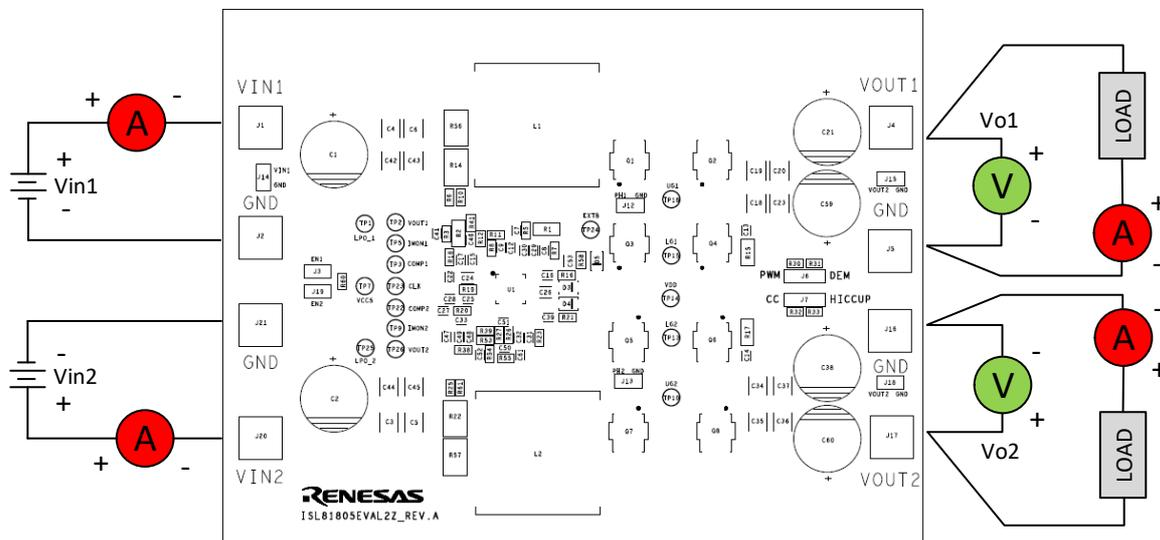

Figure 3. Proper Test Setup
As shown in Figure 3, the 9V to 36V V_{IN1} is supplied to J1 (+) and J2 (-). The regulated 48V output V_{O1} is on J4 (+) and J5 (-). Because of the high-power efficiency, Channel 1 can run at 3A continuously without airflow at ambient room temperature conditions. The 9V to 20V V_{IN2} is supplied to J20 (+) and J21 (-). The regulated 24V output V_{OUT2} is on J17 (+) and J16 (-). Because of the high-power efficiency, Channel 2 can run at 5A continuously without airflow at ambient room temperature conditions.
1. Jumper J6 provides the option to select PWM or DEM. Jumper J7 provides the option to select a constant current limit or HICCUP. See Table 2 for the operating options. Ensure that the circuit is correctly connected to the supply and electronic loads before applying any power. See Figure 3 for the proper setup.